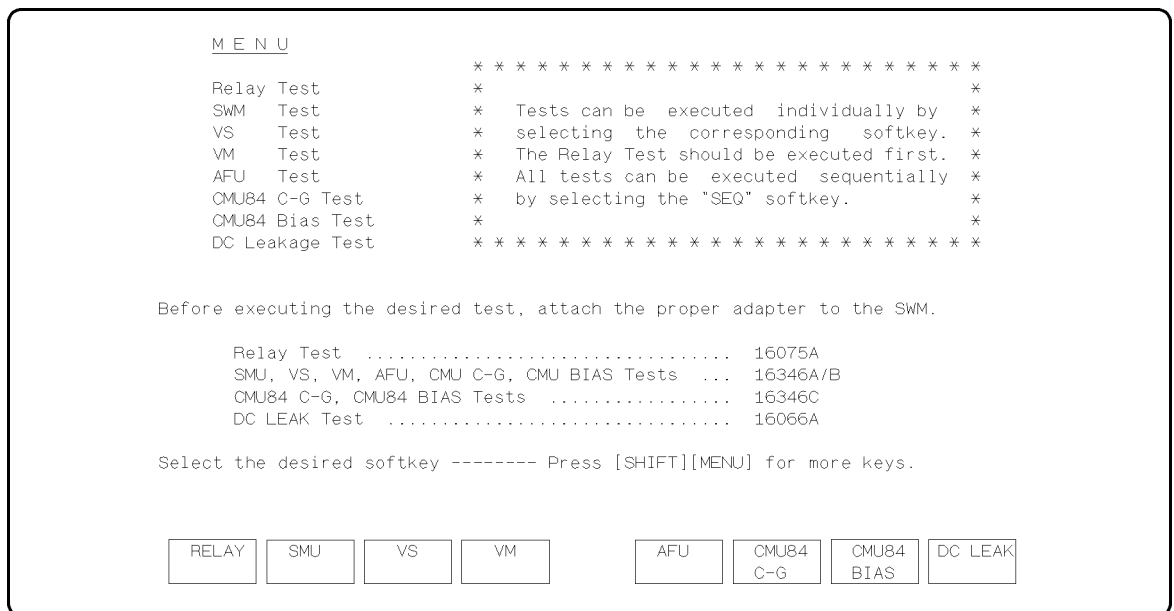

Figure 6-10. 4062UX W/O DVM Menu Page
7. Select the **Start** softkey. The 4062UX W/O DVM test menu page similar to Figure 6-10 is displayed.